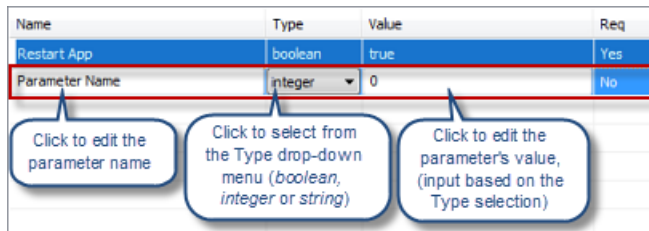

FIG. 335 Edit Parameter List dialog - user-defined parameter
3. Use the fields in the parameter list to edit the parameters as desired. For example, the *Restart App* parameter supports an editable boolean value - select either **true** or **false** from the *Value* drop-down (FIG. 335):